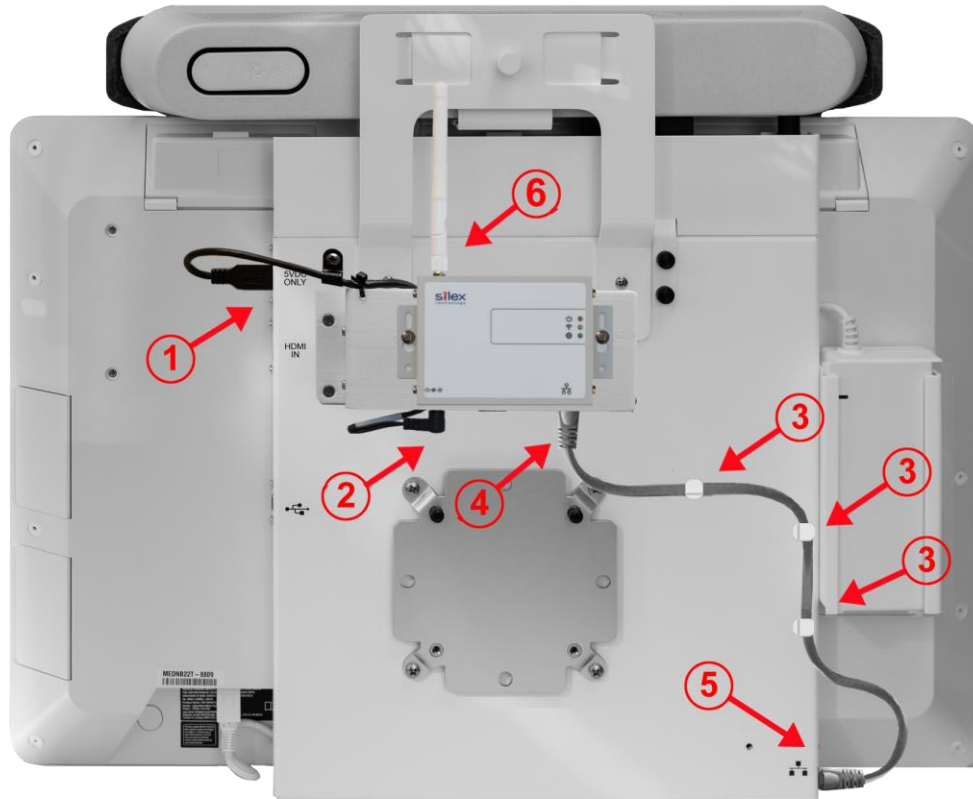

Figure 28. Connecting Sillex Wireless Bridge to eCLINiC System
3. Attach the self-adhesive cable clamps to the rear of the eCLINiC chassis in a logical pattern to allow cable attachment from the network connector on the Sillex wireless bridge to the network input connector on the eCLINiC as shown in figure 28. Above
5. Connect the other end of the supplied RJ45 male to male cable to the network connector on the eCLINiC, and route the cable through the previously attached cable clamps as shown in figure 28